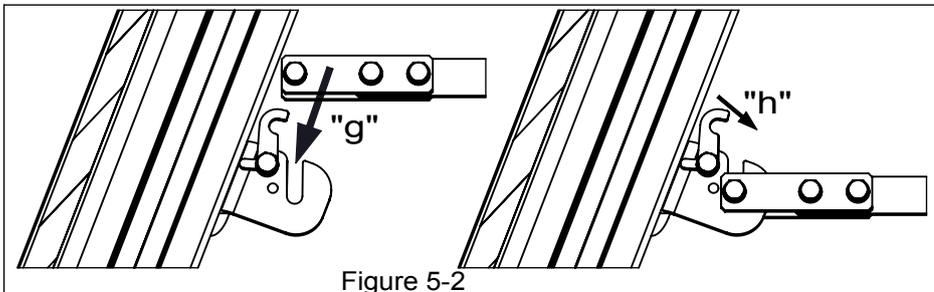

Figure 5-2
- Install ends of crosspiece in slots between legs (Figure 5-2, step "g") and secure them reliably with pawls - Figure 5-3, step "h".